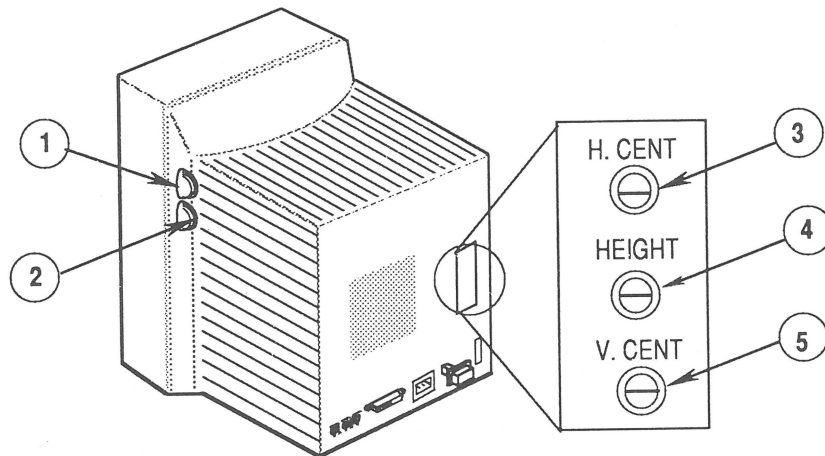

FIGURE 2
The BRIGHTNESS control (Figure 2, #1) and the CONTRAST control (Figure 2, #2) are located on the side of the monitor's case and are accessible to the user.
- HORIZONTAL CENTER (Figure 2, #3)
- HEIGHT (Figure 2, #4)
- VERTICAL CENTER (Figure 2, #5)